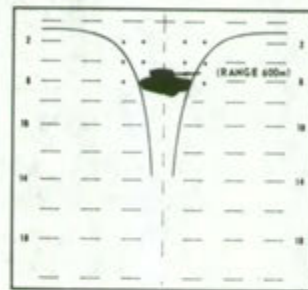

Figure 3.
- (3) Tank is at the oblique and the length appears greater than the width (figure 3).